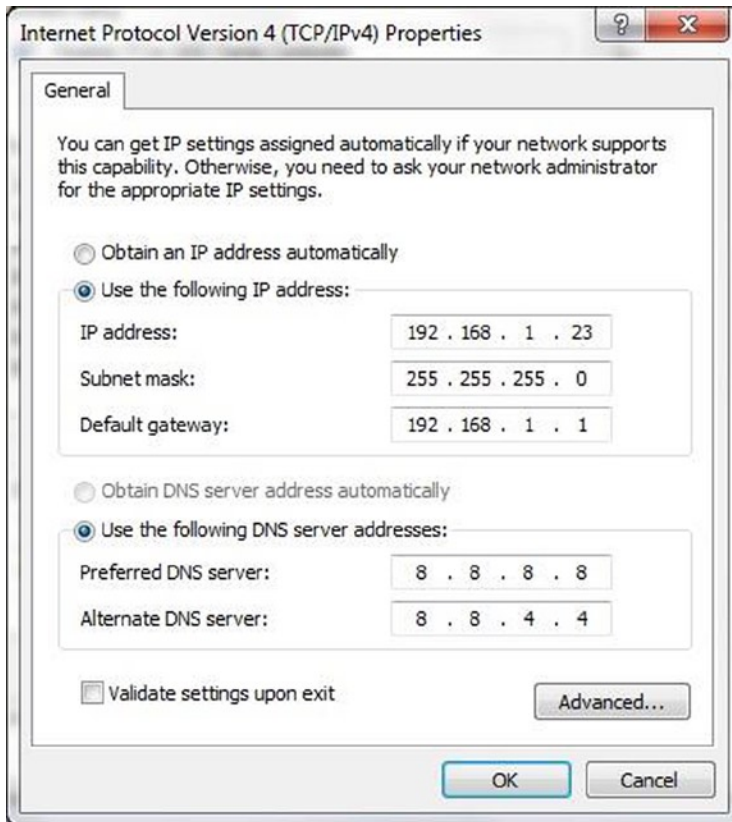

Figure 5-7. IPv4 properties on Windows 7
- 3. Select Internet Protocol Version 4 (TCP/IPv4) and click the Properties button. The IPv4 setting will be shown, as shown in Figure 5-7. Add a valid static IP, subnet mask, and gateway (usually your router IP).